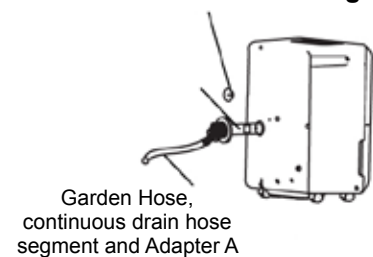

Fig. 15
- Next insert the factory supplied pump condensate hose into the pump discharge outlet. Ensure that the connection is secure to prevent water leaks by slightly tugging on the hose gently. (See Fig. 15).